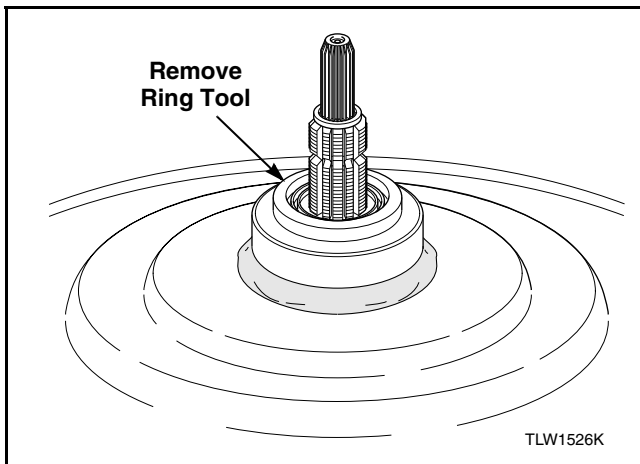

Figure 61
s. Remove ring tool. Refer to *Figure 61*.